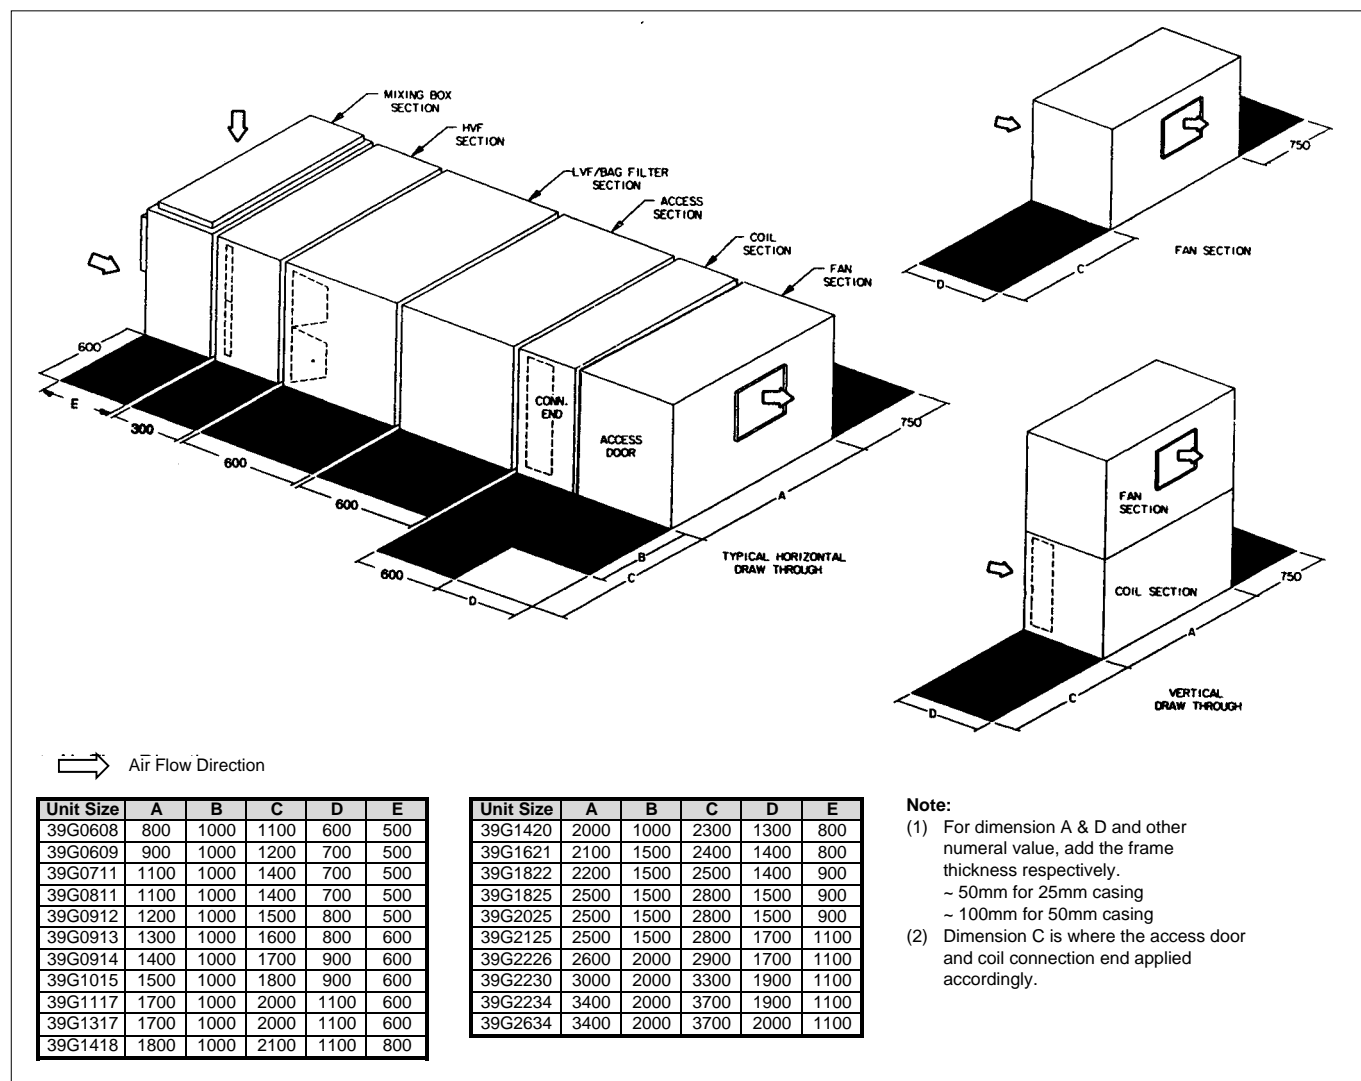

Fig. 7 Typical Assemblies Dimensions and Service Area
- Provide adequate clearance for unit service access (fan shaft and coil removal, filter removal, motor access, etc) (Refer Fig. 7).